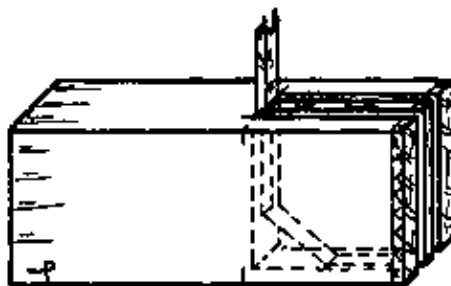

Fig. 10
– Chop out the waste with a mortise chisel, chiselling halfway through from both edges (Figs. 10 & 11).